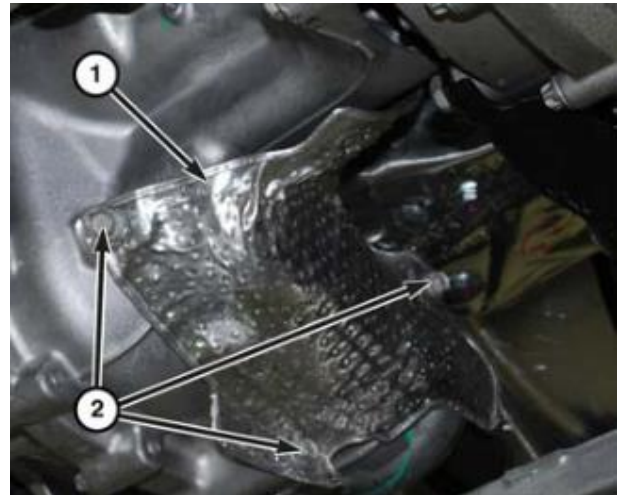

Figure 23 – PTU Heat Shield
18. Remove the bolts holding the heat shield to the PTU (Figure 23).
21. Separate the heat shield (1) from the PTU (Figure 23).
9. Place the heat shield in position on the PTU (Figure 23).
- M6 bolts to 11 N·m (8 ft. lbs.) (Figure 23).
- M8 bolts to 23 N·m (17 ft. lbs.) (Figure 23).